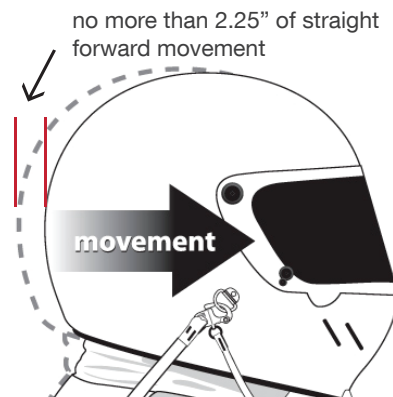

Figure 13
- 3 The helmet tethers should be adjusted or changed to allow for no more than 2.25" of straight forward head movement. Measure from a resting position (See Figure 13 dotted line) moving your entire head forward (not your chin to your chest). You should still be able to rotate your chin to your chest.